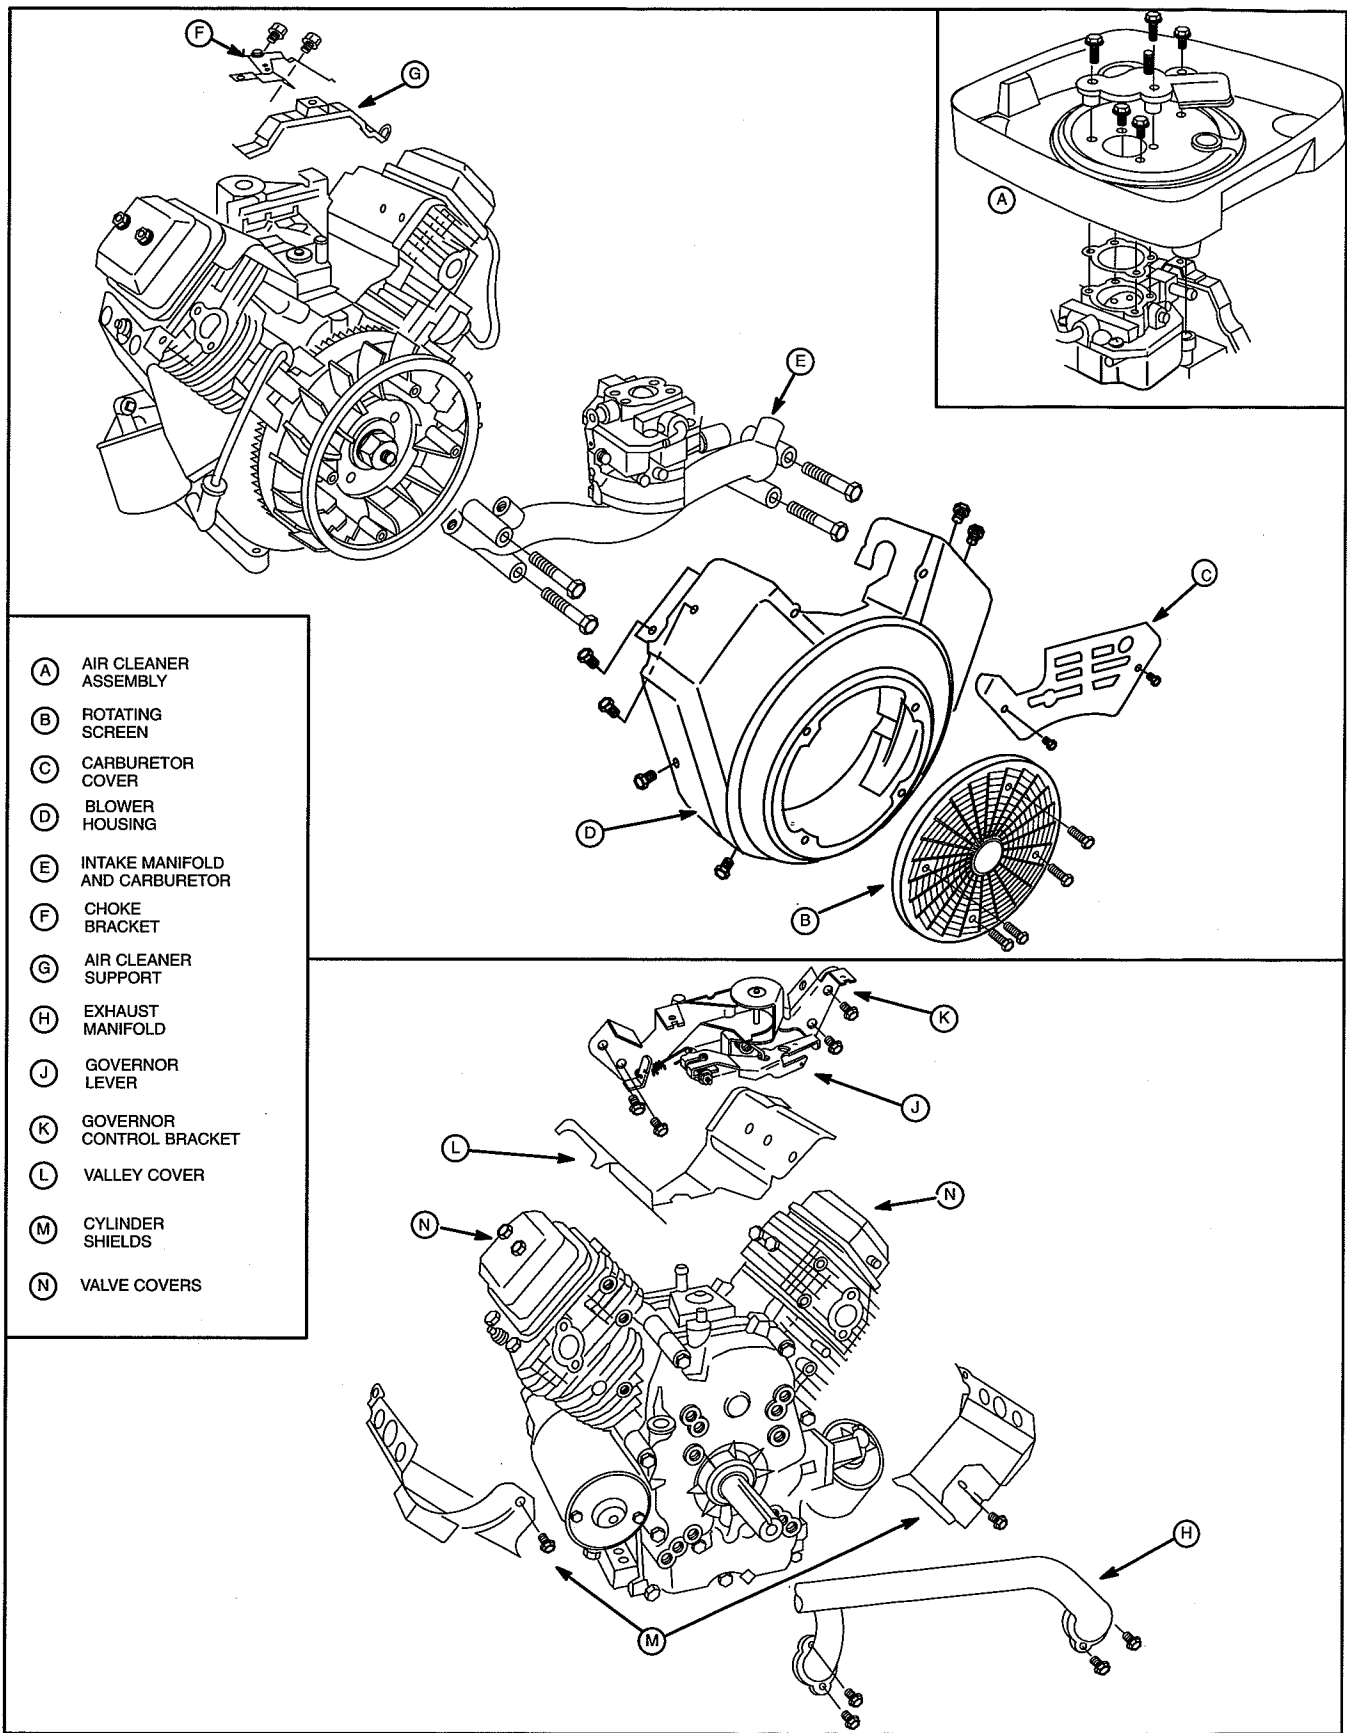

Fig. 2
1. Remove the following parts, Fig. 2.